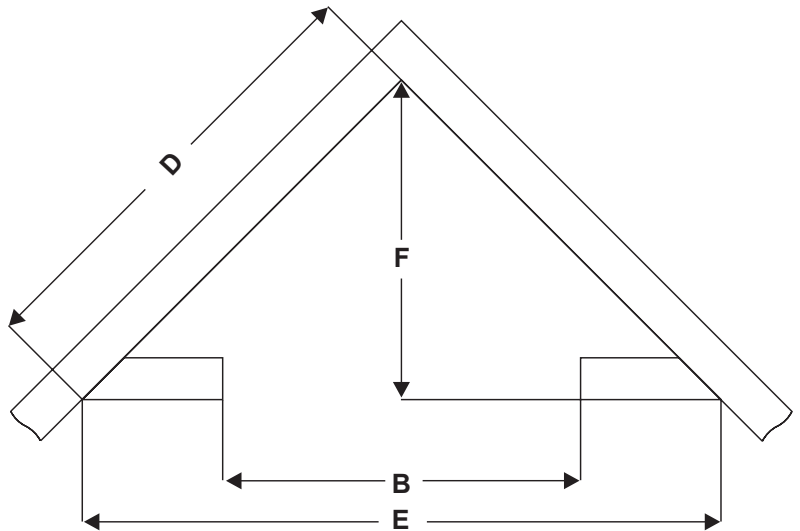

Figure 18 - Rough Opening for a Corner Installation
** Refer to Figure 18, Page 15, for Corner Installation.
- Use dimensions "A", "B" and "D", "E", and "F" shown in Figure 18, page 15, for corner rough opening. Be sure to provide gas line and electrical power for fireplace assembly.
Figure 18 shows the minimum dimensions for an installation in a corner. Refer to the chart *Rough Opening Dimensions* (page 14).